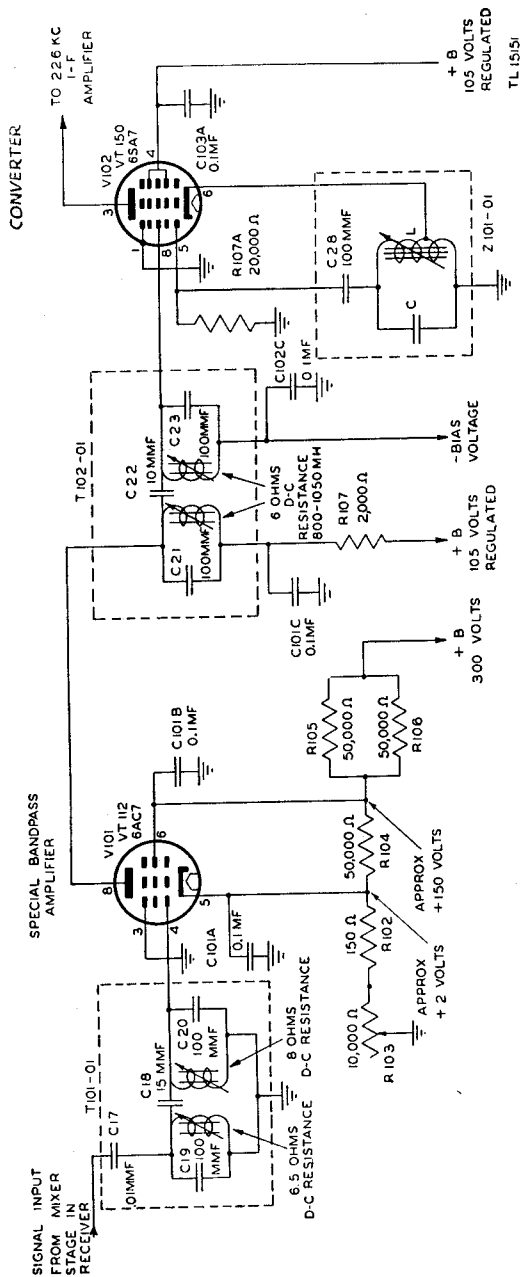

Figure 9. Simplified schematic diagram of special band-pass amplifier and converter stages.
Figure 9 shows a simplified schematic diagram of the special band-pass amplifier and converter (mixer and oscillator) stages of Panoramic Adaptor BC-1031-A. In order to simplify the explanation of the oscillator circuit at this time, the phase-shifting, resistance-capacitance network (R8, C31, R11, C32) and other parts and connections of the reactance modulator are not consid-
(2) **SIGNAL INPUT.** The signal input is passed from the plate of the mixer stage in the receiver through an isolating resistor (not shown in fig. 9), coupling capacitor C17, and enters the L-C resonant tank circuit which makes up the primary of transformer T101-01 (T101-02 in BC-1032-A).